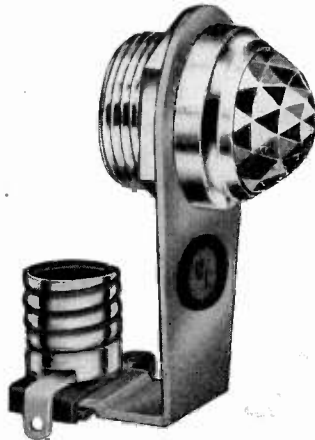

FIG. 23
- No. 25-18-15-431 Faceted  $\frac{5}{8}$ " Lens (for  $\frac{13}{16}$ " mounting hole) (Fig. 23)